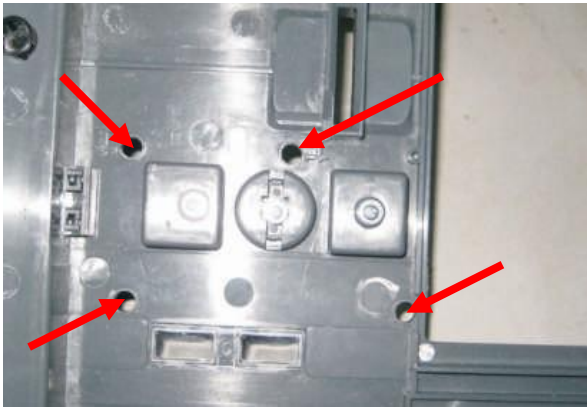

Figure 3
3. Knock out the regions shown in Fig. 3 in fascia using a 6.5mm dia drill to locate the push button padlock kit.